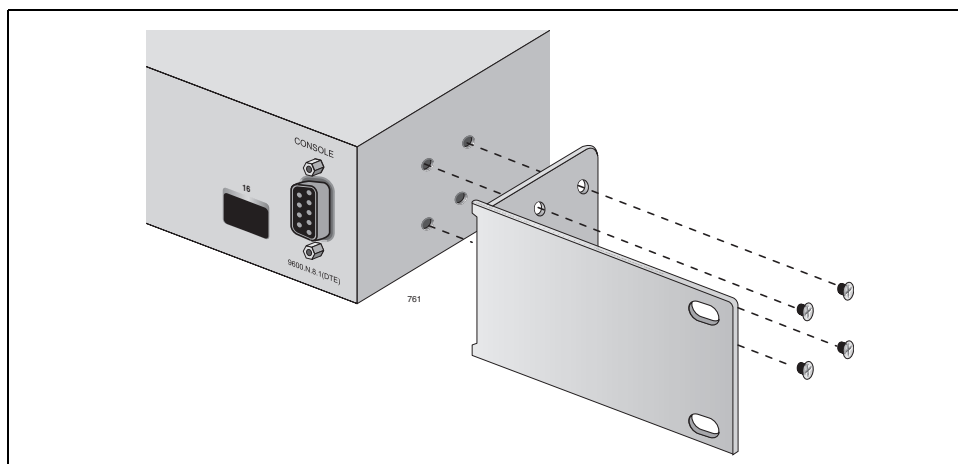
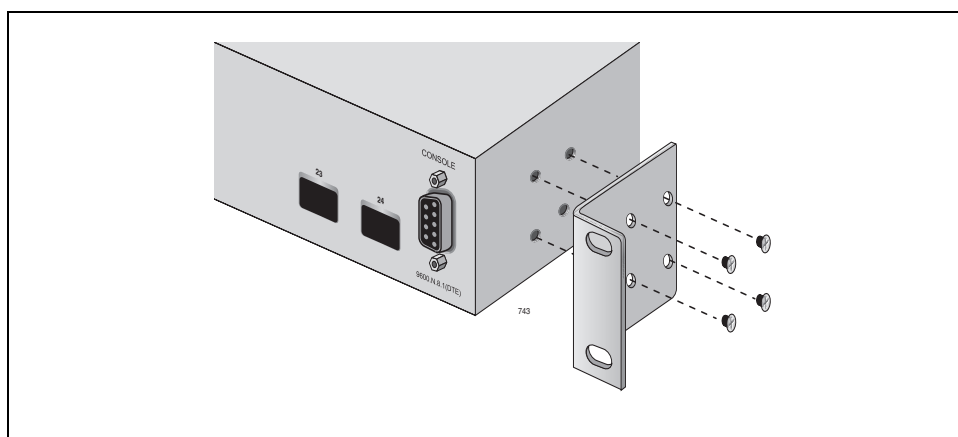

Figure 7. Attaching the Rack-Mount Bracket to the AT-GS950/16 Switch
Figure 8. Attaching the Rack-Mount Bracket to the AT-GS950/24 Switch
2. Install a bracket on one side of the switch using a Phillips screwdriver and four of the rack-mount screws included with the switch. Figure 7 and Figure 8 illustrate installing the brackets on the AT-GS950/16 and AT-GS950/24 Switches, respectively.